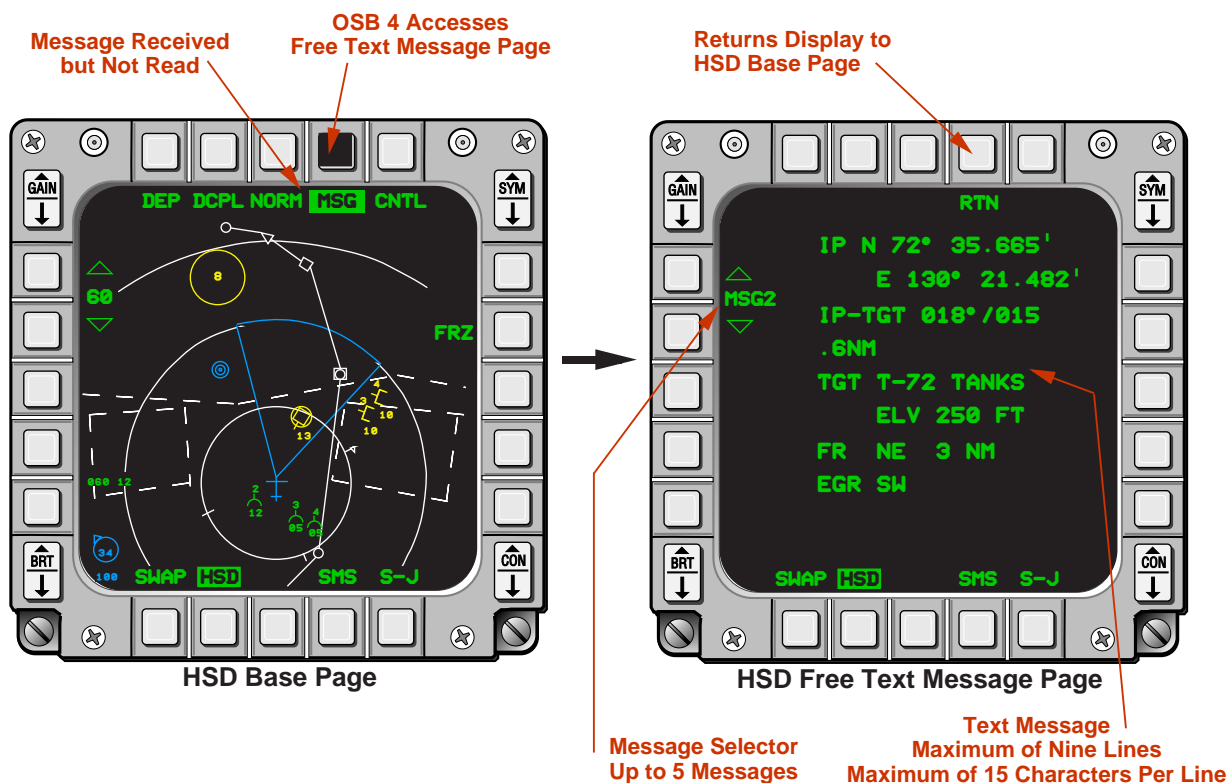

Figure 1-21 HSD Free Text Message Page
**Free Text Message Format** The HSD Free Text Message page provides for the selection and display of text messages which can be sent to the aircraft from any Improved Data Modem (IDM) compatible, external airborne or ground source (Figure 1-21).